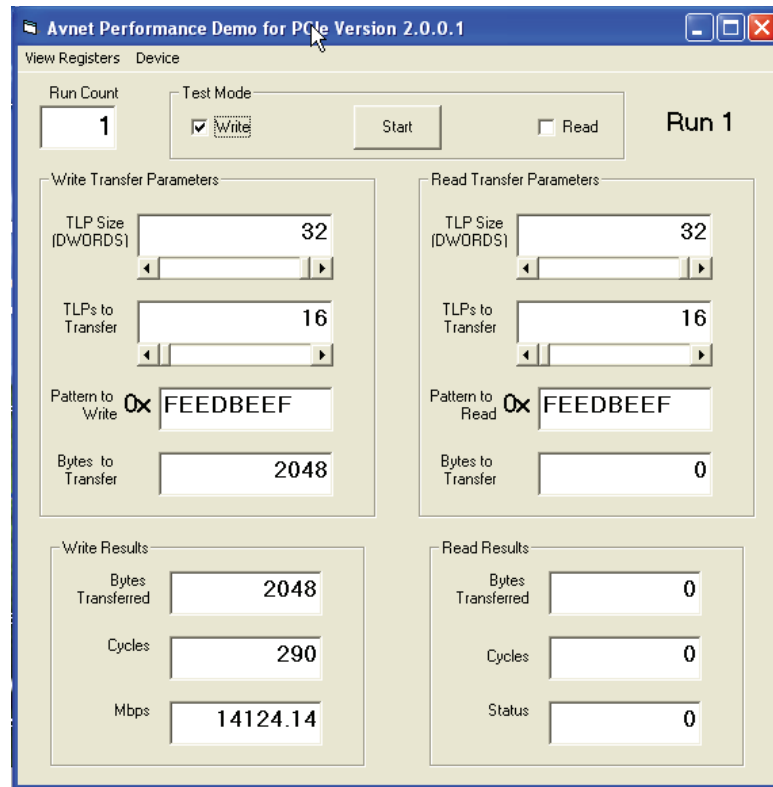

Figure 57: BMD Application GUI
30. The application GUI shown in Figure 57 appears.